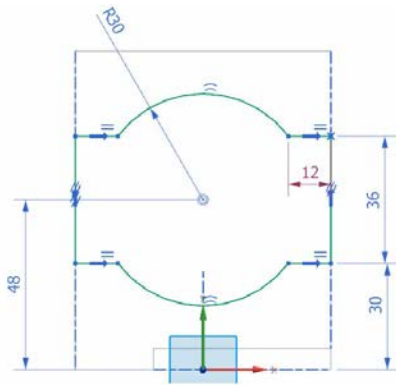

Figure 5-57 Sketch created for the fourth feature
2. Draw the sketch of the feature and add the required constraints and dimensions to it, as shown in Figure 5-57.